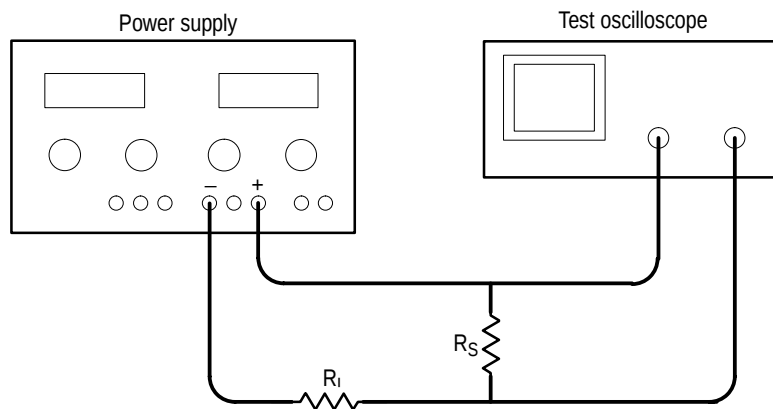

Figure 3: Constant Current Ripple and Noise Test Setup
4. Connect the test oscilloscope and load resistors to the + and – terminals of the MASTER output as shown in Figure 3. See Table 8 for the appropriate load resistor values.
4. Connect the test oscilloscope and load resistors to the + and – terminals of the SLAVE output as shown in Figure 3. See Table 8 for the appropriate load resistor values.